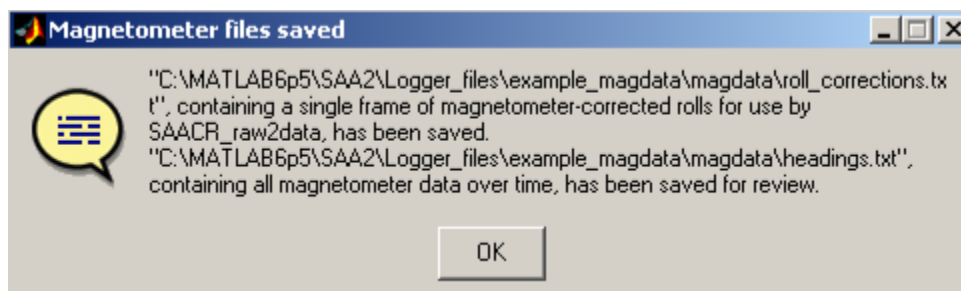

Figure 5.33: A notice announcing that a "roll_calibration.txt" file has been created and saved.
13. A notice (see **Figure 5.33**) will show that: